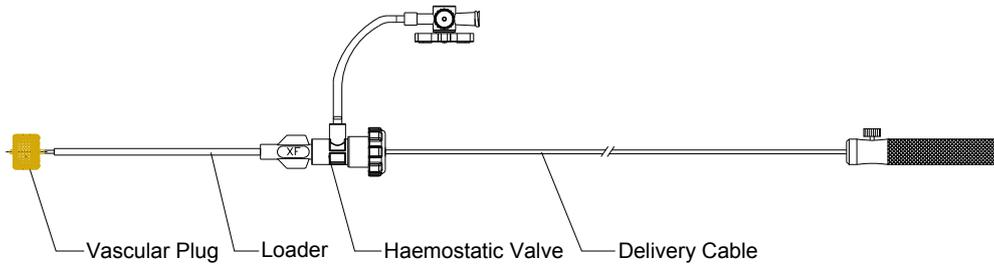

Figure 1 Assembly of Cera™ Vascular Plug System
- The Cera™ Vascular Plug system is composed of Cera™ Vascular Plug and Cera™ Vascular Plug's accessory Introducer Kit. The Cera™ Vascular Plug is a self-expandable, cylindrical device made of a Ni-Ti wire mesh. (See **Figure 1~ Figure 5**) The device is fixed on the both ends with stainless steel sleeve. One stainless steel micro screw (nut) is welded to one end of the device. 140cm long Delivery Cable is allowed to connect with stainless steel micro screw in order to access or retrieve. PTFE membranes, designed to help seal the hole and to obstruct blood after Plug placement, are sewn into the device. All metallic structures are plated with titanium nitride (TiN) coating to improve the biocompatibility. The device has various sizes ranging from 4 to 24mm in 2 millimeter increments.(See **Table 1**)